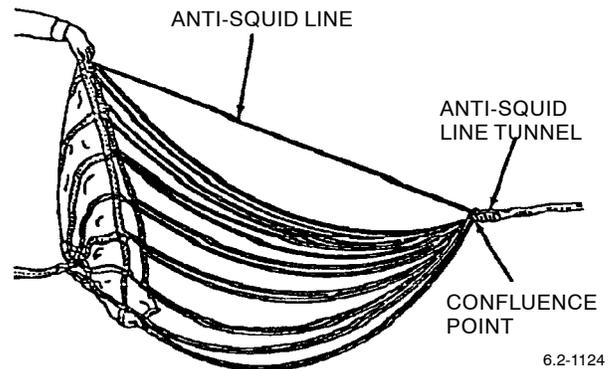

Figure 8. Continuity Check
a. Continuity check (QA):
(1) Walk anti-squid line from tunnel of confluence point to skirt hem of stabilizer drogue.
(2) Hold anti-squid line at skirt hem, from two groups of twelve lines each.
(3) Ensure anti-squid line is retainer in central position with twelve lines on either side.
(4) Ensure suspension lines are not crossed or entangled at confluence point (Figure 8).